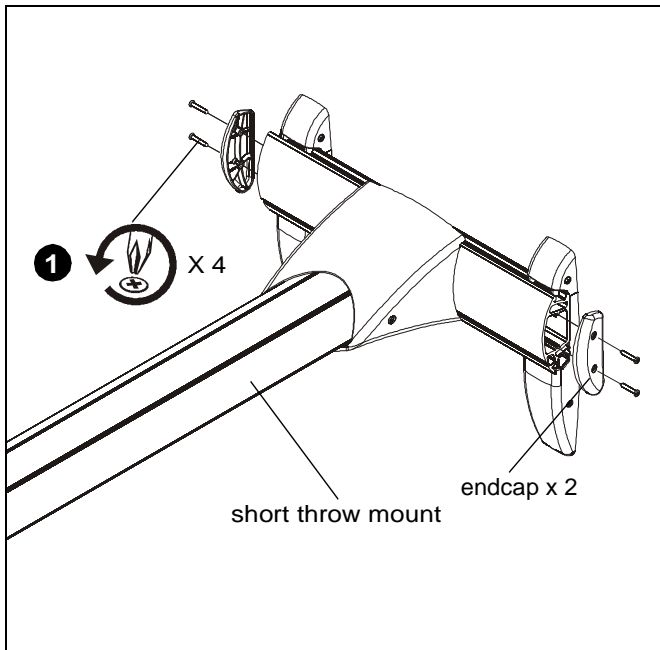

Figure 1
1. Remove endcaps from short throw mount by removing four Phillips pan head sheet metal screws. (See Figure 1)